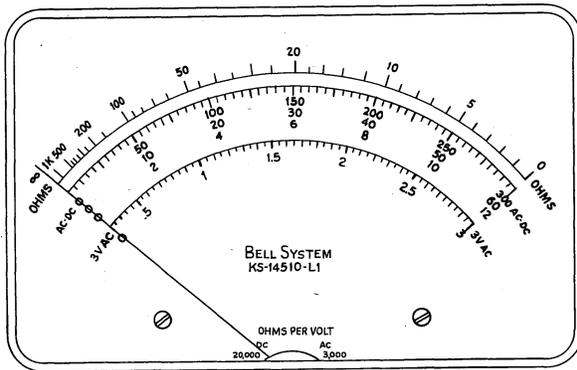

Fig. 2 - Scale
2.05 There are five scales on the meter, as shown in Fig. 2. The top green scale is used when measuring resistance, and is marked 0 to 1K. With the switch knob turned to OHMS X 1, the ohms scale is read just as it is marked. With the switch knob turned to OHMS X 10, OHMS X 100, OHMS X 1000, or OHMS X 10,000, the values on the ohms scale must all be multiplied by the indicated multiplier, i.e., by 10, 100, 1000, or 10,000, respectively. The second or middle scale (black) is used to measure all dc voltages and currents and all ac voltages except the 0.3-volt range. This latter voltage is read on the bottom (red) scale.
3.09 The meter scales are illustrated in Fig. 2. A familiarity with these scales and their relation to the ranges controlled by the range switch is desirable. The 0.3- and 3.0-volt dc ranges and the 300-volt dc-ac ranges should all be read on the 0-300 scale, and the 600-volt dc-ac ranges on the 0-60 scale, using decimals as appropriate for the 0.3- and 3.0-volt ranges, and multiplying all readings by 10 for the 600-volt range. Thus a reading of 100 on the 0-300 scale would indicate 0.1 volt with the range switch on 0.3-volt range, and 1.0 volt with the switch on the 3.0-volt range. A reading of 20 on the 0-60 scale would indicate 200 volts on the 0-600-volt range. The ohms scale is read as indicated in Paragraph 2.05.